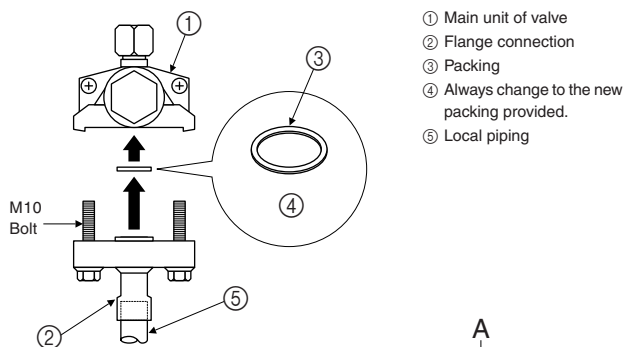

Fig. 5-2
- Use the following procedure for connecting the gas-side piping. (Fig. 5-2)
- Braze the flange joint (2) provided to the outdoor unit using locally procured brazing materials.
- Always attach the new packing (3), provided, for the connecting pipe with the flange to the valve body before connecting the piping to the stop valve.